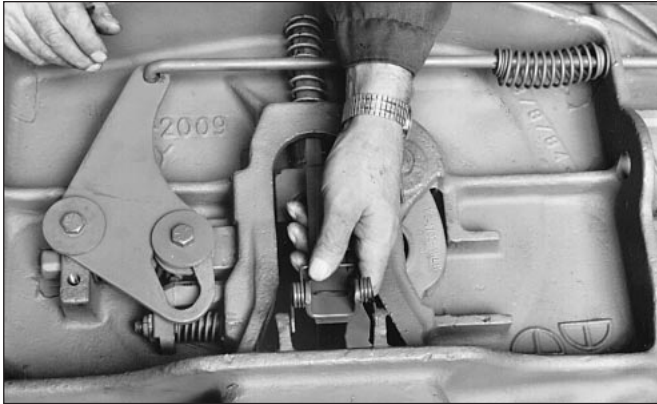

Figure 12
2. Assemble the lock guard (*ITEM 19*) and torsion spring (*ITEM 20*) (see *Figure 12*).